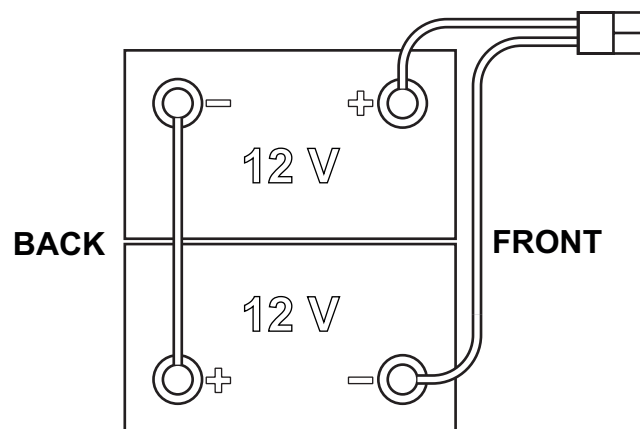

Figure 1
The machine requires 2 12 V batteries, connected according to the diagram shown in Figure 1.
1. Remove the operator key (41).
2. Disconnect the battery connector by pressing the emergency push-button (5).
3. Lift the cover (18) and check that the recovery tank (17) is empty, otherwise empty it with the drain hose (26).
4. Close the cover (18).
5. Grasp the handle (35) and carefully lift the recovery tank assembly (17).
8. Route and install the battery cable as shown in Figure 1, then carefully tighten the nut on each battery terminal.
9. Place the protection cap on each terminal, then connect the battery connector (6).
10. Disengage the support rod (36), then grasp the handle (35) and carefully lower the recovery tank assembly (17).